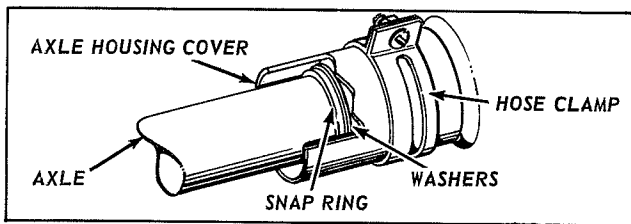

Figure 1
2. Remove the hose clamp and axle housing cover from the left side of the axle tube. Remove the snap-ring and washer from the axle. Refer to Figure 1. When the snap-ring and washer have been removed from the axle, withdraw the axle by pulling on the right hand wheel hub. Giving the hub a slight rotation forward and backward may be helpful in sliding the differential gears through the pinions in the differential assembly.